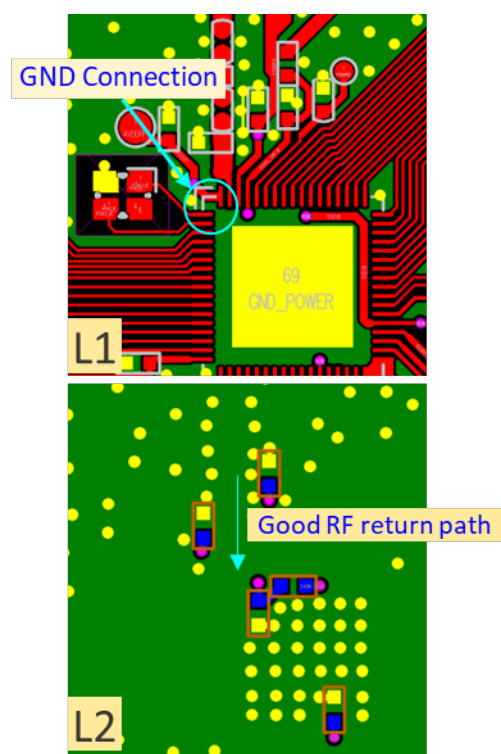

Figure 4. GND Via around RF Trace and Return RF Trace of the AB1625 / AB1623 / AB1620 EVK Daughterboard
- Ensure that the return path is solid and reliable. Refer to Figure 4 for additional information.